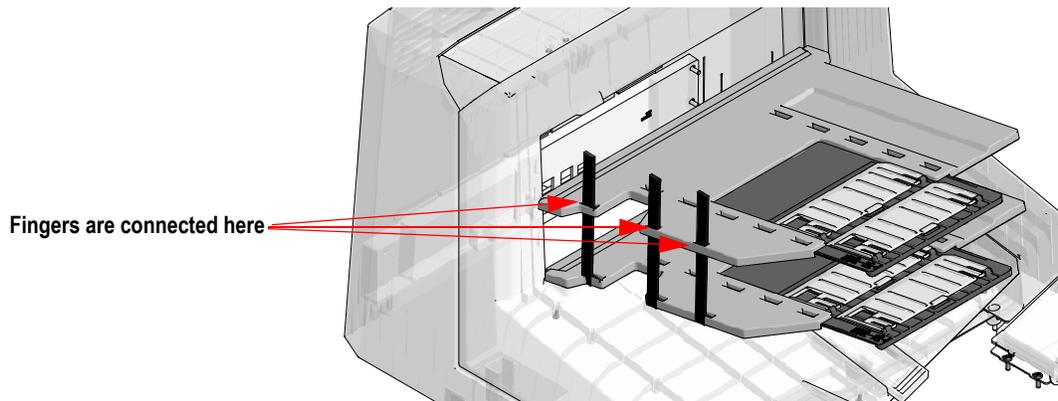

FIGURE 4: Tray finger location
- 11 If desired, slide the fingers into the holes in the front edge of the top tray as shown in Figure 4. These help contain documents on the tray.